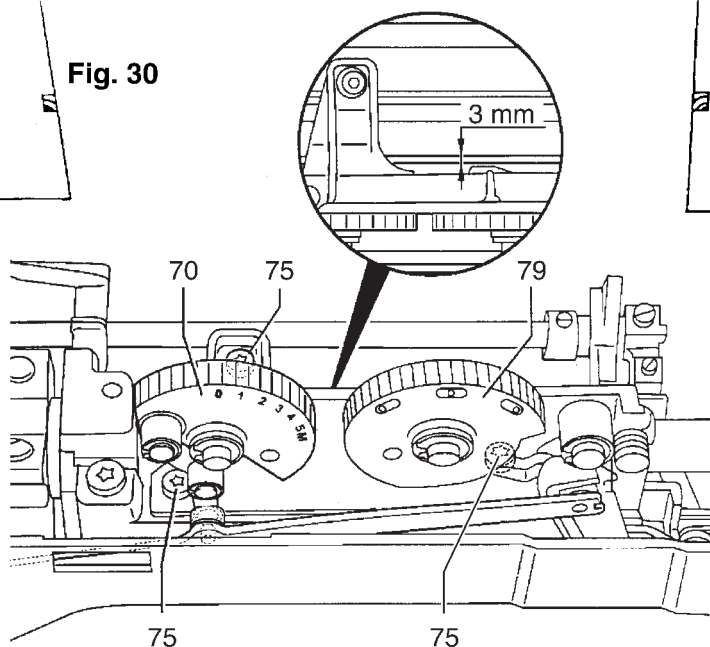

Fig. 32
- Set stitch width adjustment dial 70 to "0" (fig. 32).
- Move the zigzag-stitch unit to the left or right until the needle is exactly in the center of the needle plate slot (fig. 32).